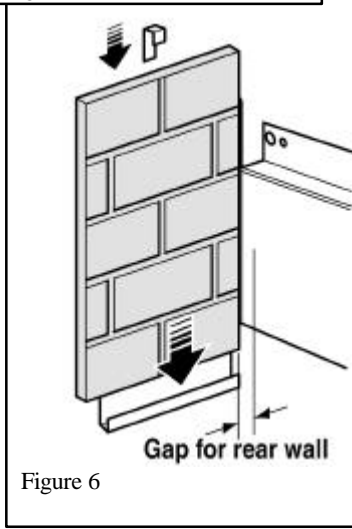

Figure 6
4. Fit one of the ceramic side walls into the slot of the ceramic support bracket at the far side of the firebox. Leave sufficient space to insert the edge of the rear wall behind the side wall. Fix the side wall into position using the retaining clamp. (See figure 6).